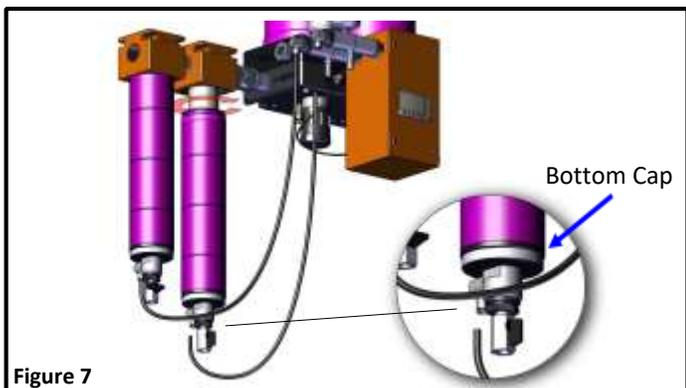

Figure 7
1. Release system pressure in the dryer, open either ball valve located on the bottom of the filter housing to verify there is no pressure remaining inside the unit. *Figure 7*
2. Disconnect the pilot line located at the bottom of the oil coalescing filter. *Figure 7*
1. Release system pressure in the dryer, open either ball valve located on the bottom of the filter housing to verify there is no pressure remaining inside the unit. *Figure 7, Page 4*